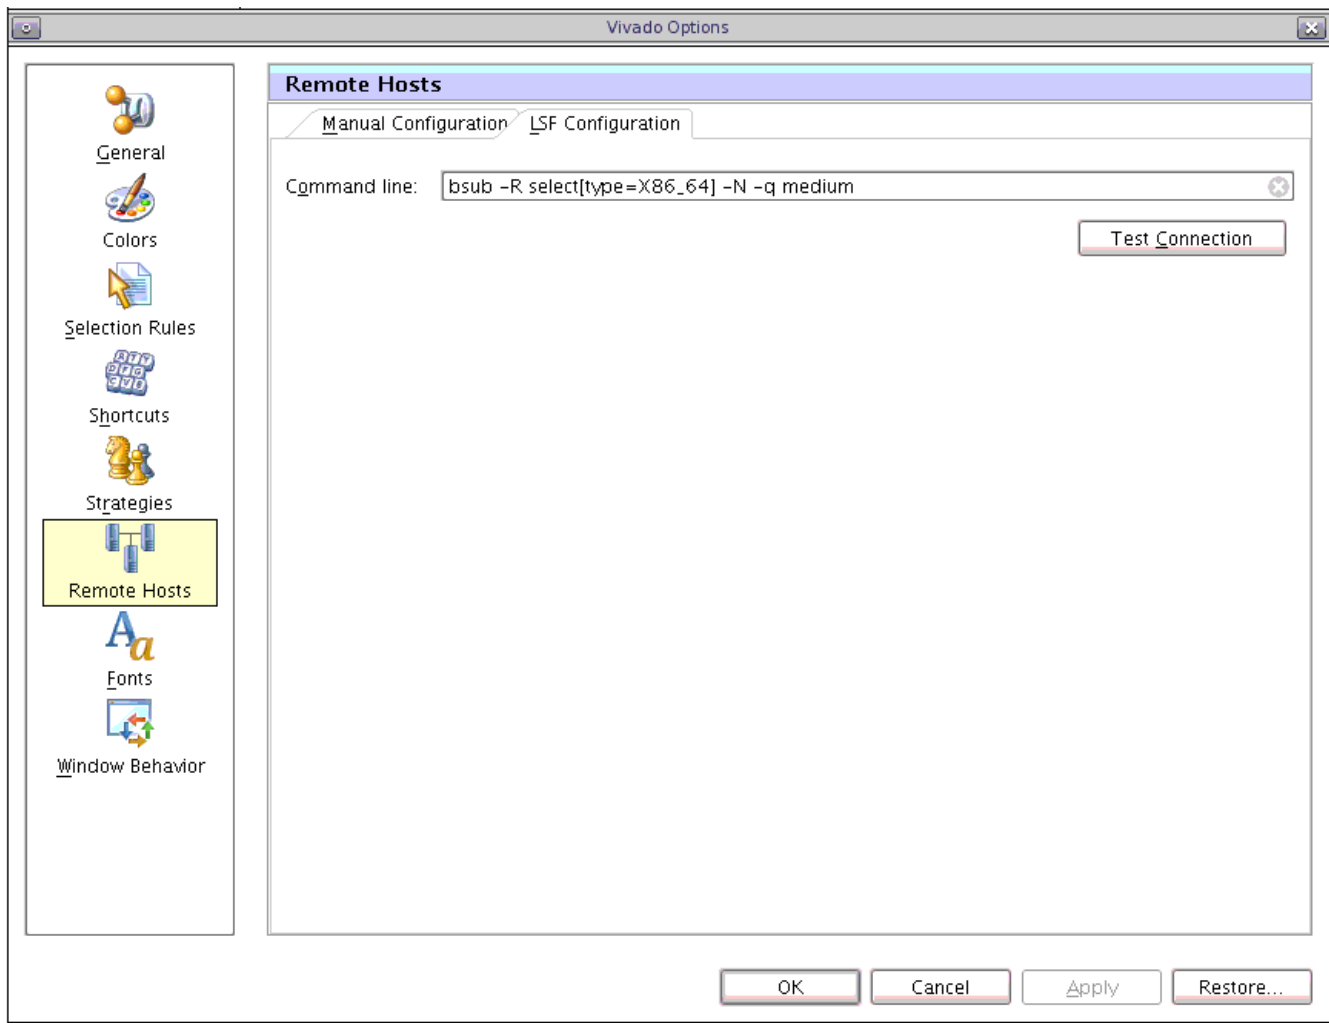

Figure A-2: Vivado Options Dialog Box with Remote Hosts Selected
- As shown in Figure A-2, the Vivado Options dialog box displays, with the Remote Hosts section selected. Select the LSF Configuration tab.